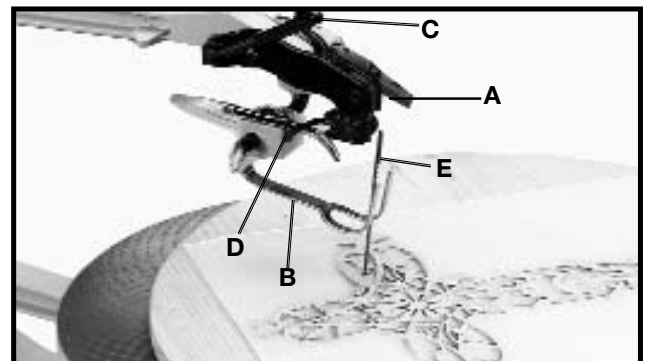

Fig. 37
Loosen lock handle (A) Fig. 37, and raise the spring hold-down (B). Release blade tension by moving tension lever (C) forward and loosen upper blade holder by moving lever (D) to the rear as shown. This will release the blade (E). Insert the blade (E) into the next hole in the pattern, as shown.